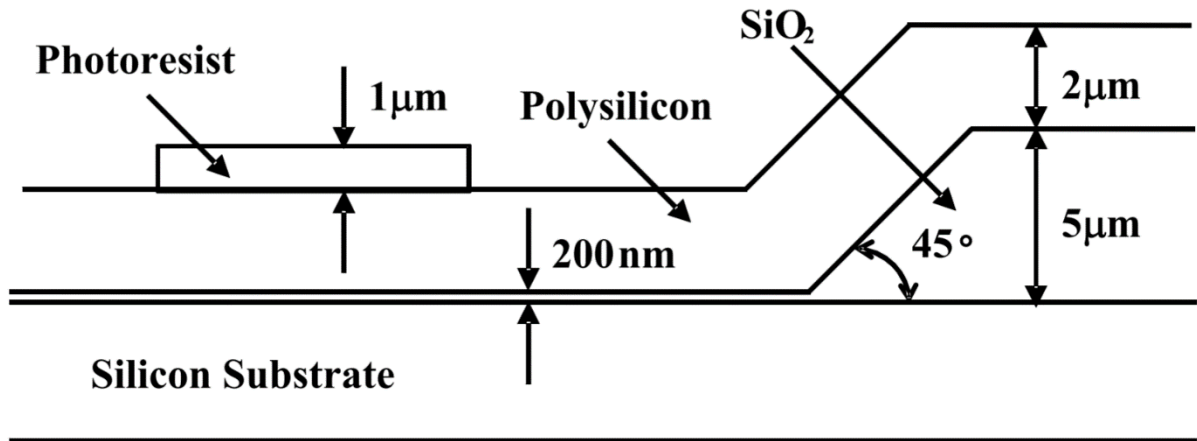

Figure PS2.1
1. The cross-section shown in Fig. PS2.1 below is to be etched via reactive ion etching (RIE). For this problem, assume that the RIE etch is 100% anisotropic with a polysilicon etch rate of $1\ \mu\text{m}/\text{min}$, a silicon-to-oxide selectivity of 5:1 and a silicon-to-photoresist selectivity of 2:1. Draw cross-sections of the structure after etching for: